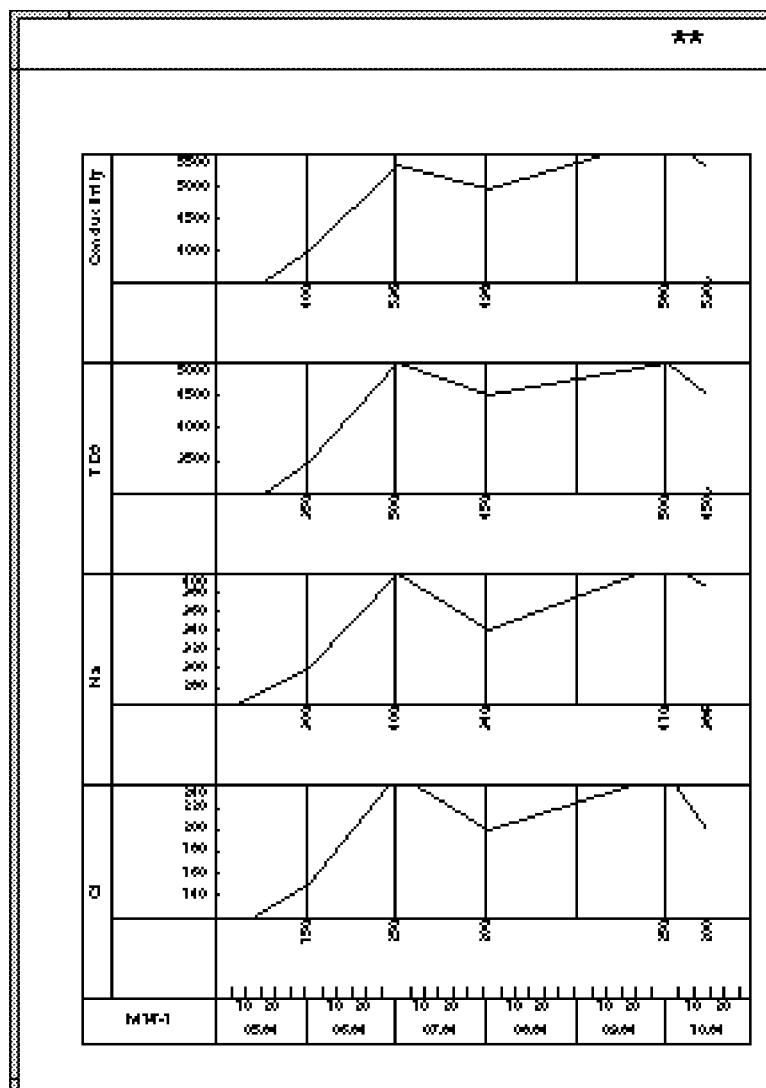

Figure 20-23
14. Now you may see immediately the graph. Click on **Display**. The default parameters are used to display this graph. The display is as shown in Figure 20-23.